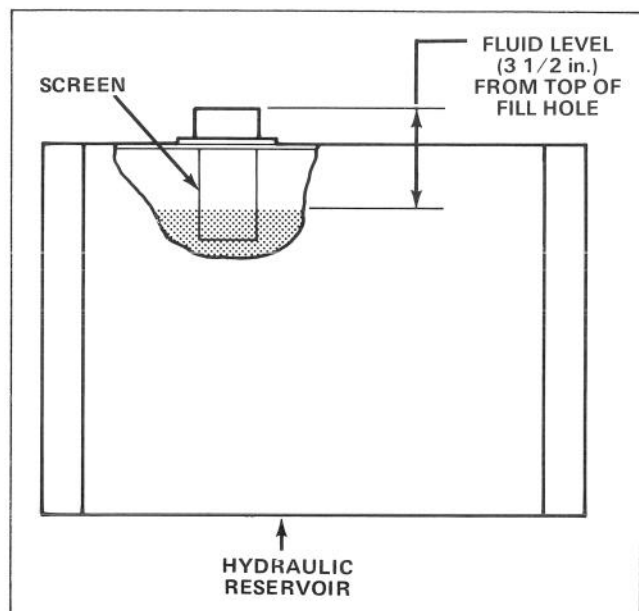

Figure 44
DAILY CHECKS: Check the hydraulic fluid level daily. Replenish with Mobil DTE26 as necessary. Also, check daily for leaks, chafed or otherwise damaged hoses and make sure there are no kinks, sharp bends or twists in any flexible line. Repair or replace as necessary (Fig. 44).
2. Refill the reservoir with Mobil DTE26 hydraulic fluid until it is 4 in. to 4-1/2 in. (10.2 to 11.4 cm) from the top of the reservoir (Fig. 44).